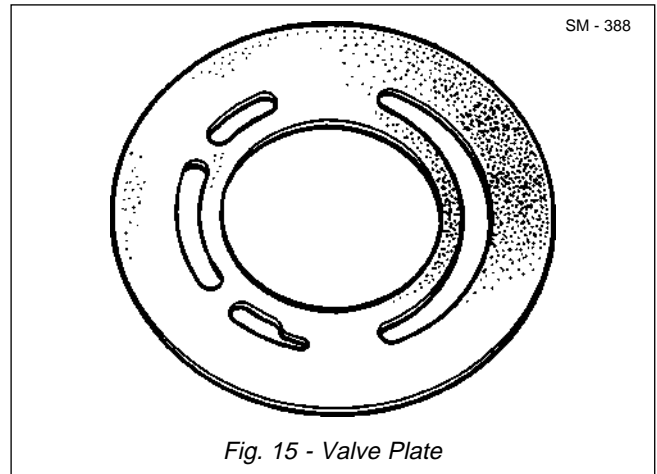

Fig. 15 - Valve Plate
1. Assemble valve plate dowel pin (18) into valve block (15).
2. Assemble valve plate (17) over the bearing race and dowel pin (18) with wear surface away from valve block (15). Refer to Fig. 15 for valve plate (17) identification.
**Note:** Valve plate (17) must be flat against valve block (15) face. Check to make sure it does not rock back and forth. If rocking of valve plate (17) occurs, check dowel pin (18), it may not be bottomed out in valve block (15). Rocking of valve plate (17) will induce high stress conditions across the valve plate and cause fractures to appear.
3. Place valve block (15) on its side.
4. Install piston rod (57) into valve block (15) and attach retainer (54).
5. Install new 'O' ring (55) in piston rod (57) 'O' ring groove.
6. Install compensator piston (56) over piston rod (57).